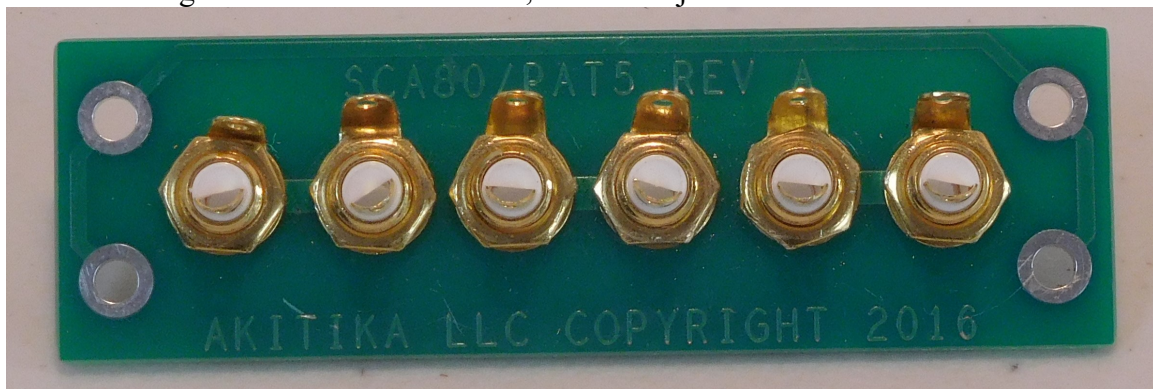

Figure 2-Jack installation, (left channel, white insulator jacks shown)
- Solder cup of the RCA center conductor as shown in Figure 2.